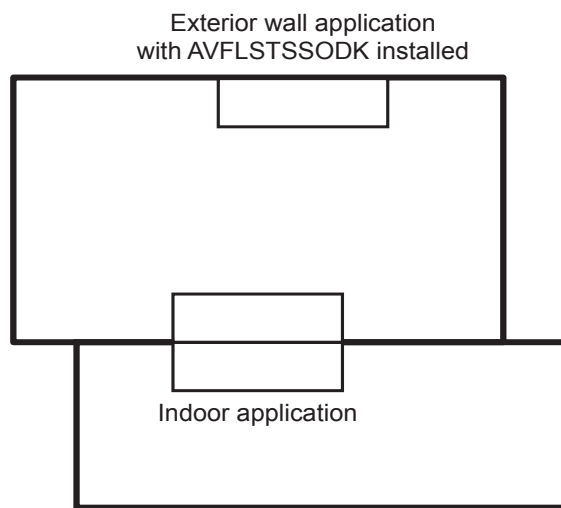
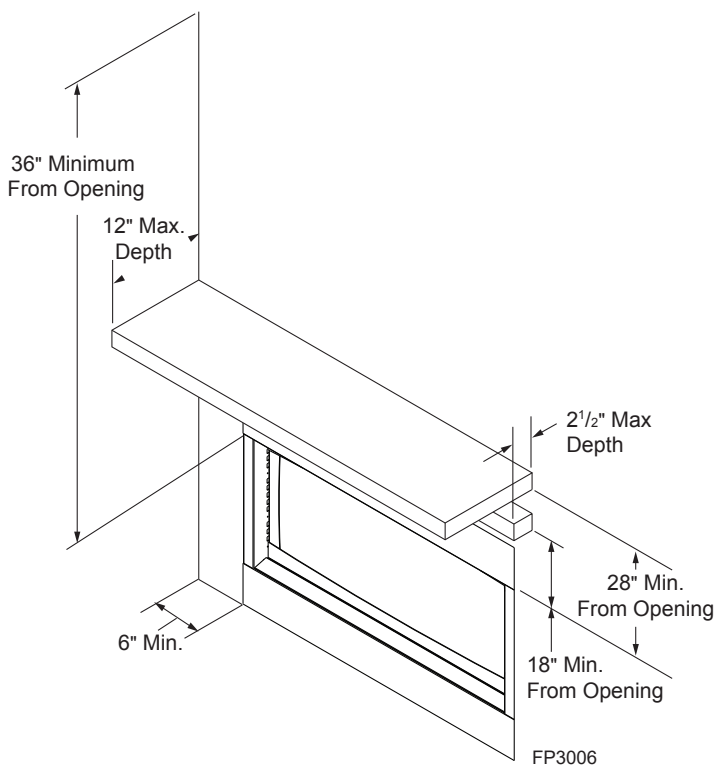

Figure 5. Possible Fireplace Locations
Figure 6. Sidewall and Ceiling Clearances
1. Position fireplace in desired location. Refer to the Fireplace and Framing Dimensions (page 7, Figures 2 and 3,) Fireplace Location (page 9, Figure 5) and Clearances and Height Requirements (page 10, Figures 6 and 7.)
- Minimize modifications to existing construction. Refer to Figure 5 below for location suggestions.
Ensure that minimum clearances shown in Figures 6 and 7 are maintained. Left and right clearances are determined when facing the front of the firebox.
Sidewall Clearances — The clearance from the inside of the appliance to any combustable adjacent wall should not be less than 6". Figure 6
Ceiling Clearance — The ceiling must be at least 36" from the firebox opening. Figure 6
The dimensions shown in Figures 6 and 7 are minimum clearances to maintain when installing this heater. Left and right clearances are determined when facing the front of the heater.
Mantel clearances — Must meet the clearance requirements detailed in Figures 6 and 7.